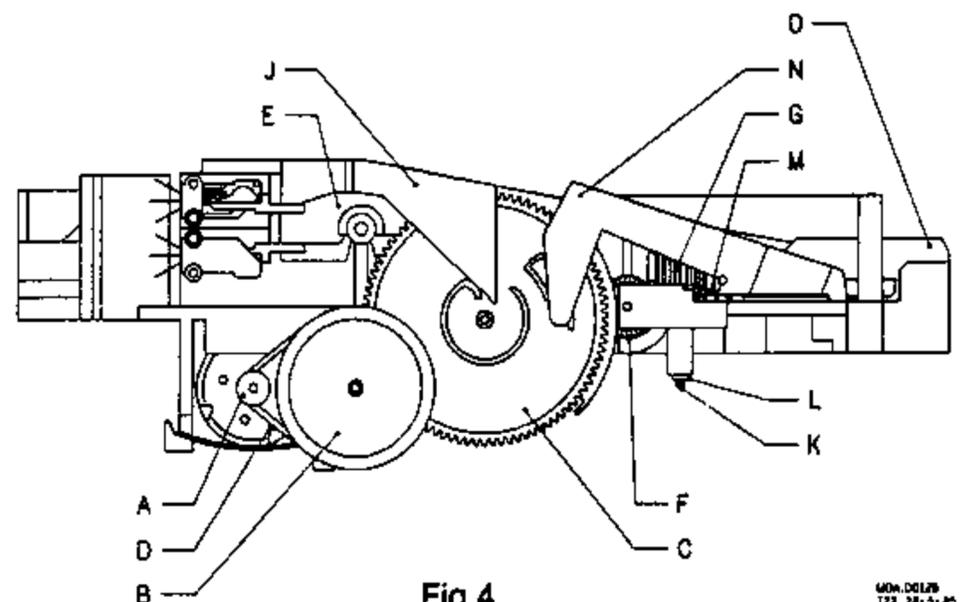
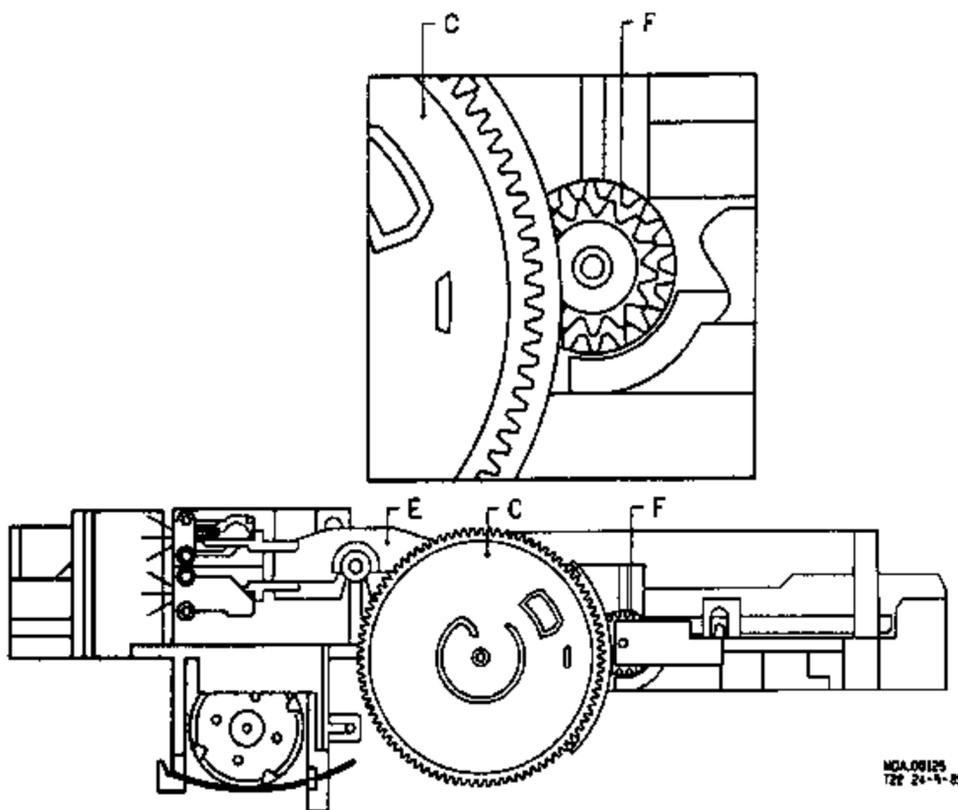

Fig. 4
Fig. 5
- Ensure that the aperture in gearwheel F is vertical (see Fig. 4) and apply cog wheel C in the way described in Fig. 5.
Use 7th order filter 4822 395 30204 (see Fig. 5) to measure: